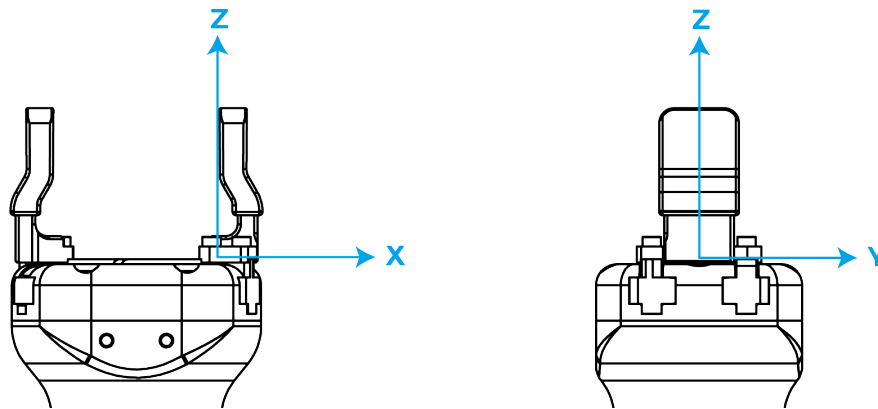

Fig. 5-14: Reference frame for maximum force and moment values applied to the fingers
*Moments in x and y are calculated from the base of the fingers, as shown in Fig. 5-14